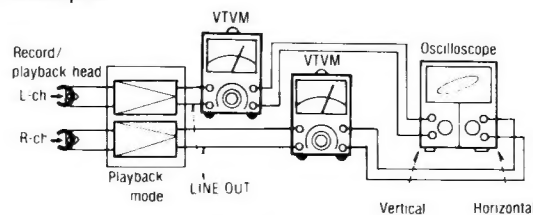

Fig. 5
4. Make connections as shown in fig. 5.